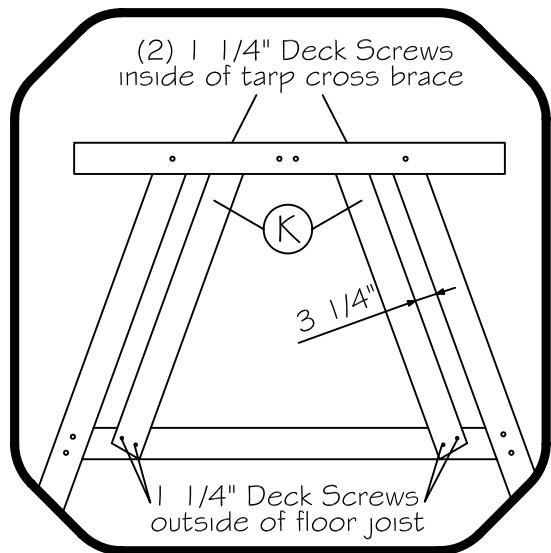

FIG. 14
- Step 3: Attach (2) Wall Slats to the front and back of fort by placing top of slat on inside of tarp cross braces and bottom of slat on outside of floor joists and attaching with (2) 1 1/4" deck screws per place. (see Fig. 14)